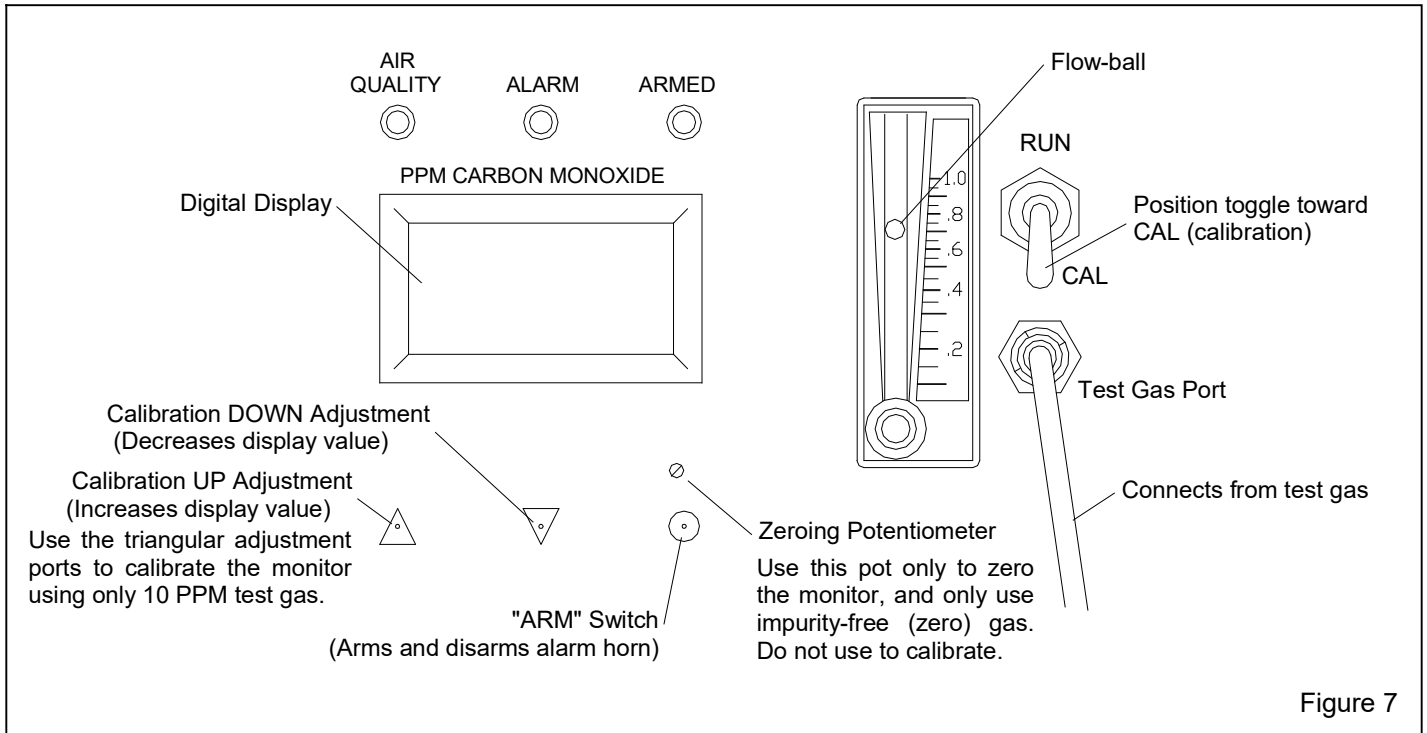

Figure 7
4.4.1 Open the instrument case cover to access the faceplate. Refer to Figure 7 for faceplate-calibration and testing callouts.
5.2 Open the instrument case cover to access the faceplate. Refer to Figure 7 for callouts.